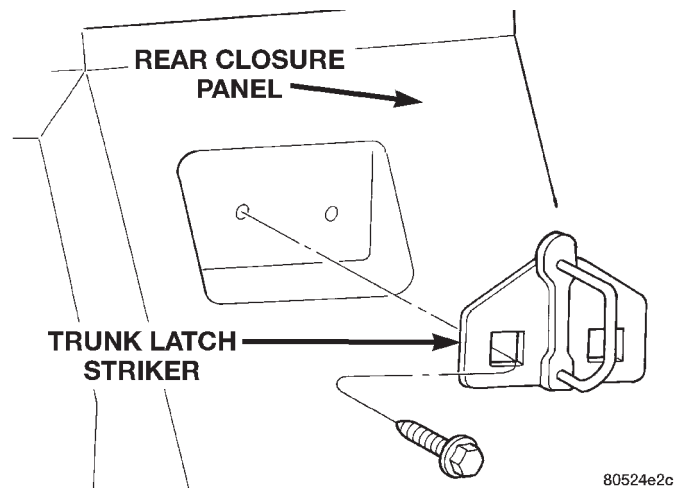

Fig. 72 Trunk Latch Striker
- (1) Release trunk latch and open trunk lid.
- (2) Mark outline of trunk latch striker on rear closure panel to aid in installation.
- (3) Remove bolts holding trunk latch striker to rear closure panel (Fig. 72).
- (4) Separate striker from vehicle.